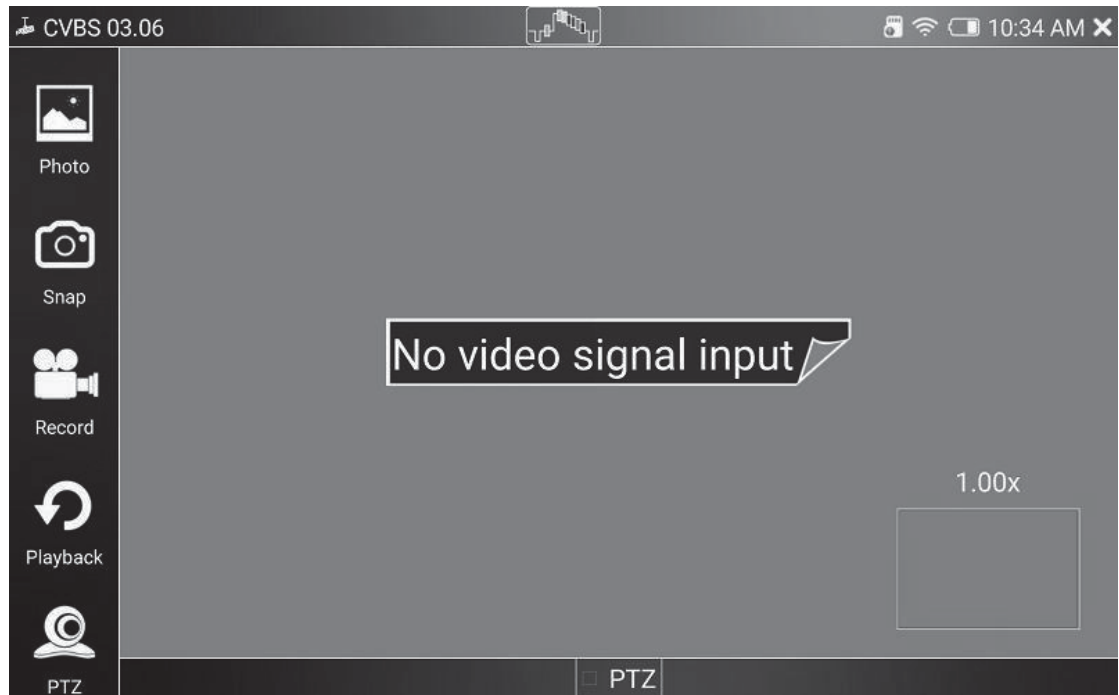

Figure 4 CVBS Analog Video Test Main Interface
1) In the CVBS & HD main menu, touch CVBS icon to enter the application main interface, as shown in Figure 4